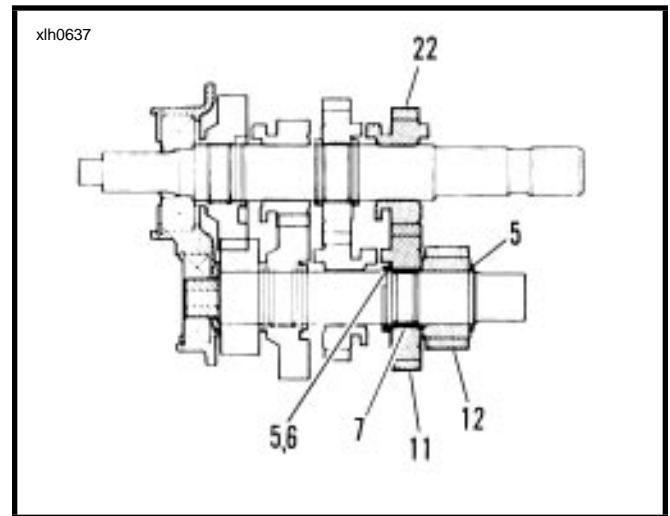

Figure 6-33.
14. See Figure 6-33. Install retaining ring (5) and thrust washer (6). Install split bearing (7) into seat next to thrust washer (6).
15. Install countershaft 2nd gear (11) over bearing (7).
16. Install mainshaft 2nd gear (22) onto shaft.
17. Install countershaft 5th gear (12).
18. Expand retaining ring (5) and slide into groove next to countershaft 5th gear (12).